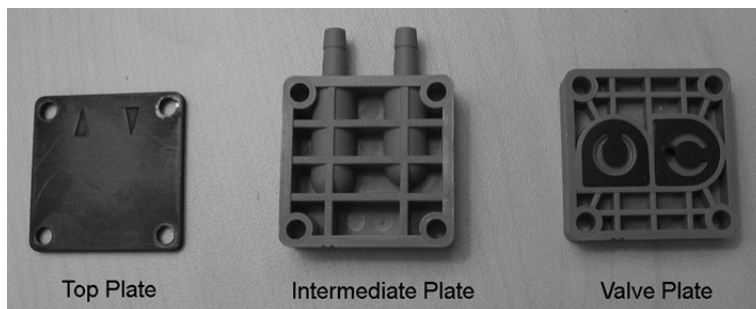

Figure 69: ICR Pump Plates
- Using a Phillips-head (cross-head) screwdriver, loosen the four screws on the pump (Figure 69) and lift the black head plate from the intermediate plate (Figure 70).
- Remove the intermediate plate and remove the valve plate (Figure 69). If necessary, carefully clean the head and intermediate plates of any residue. Be careful not to scratch the parts.